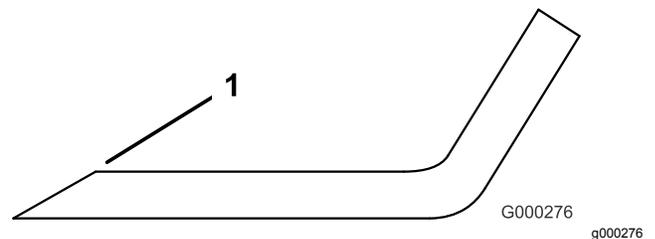

Figure 111
3. Examine the cutting edges of all of the blades and sharpen the cutting edges if they are dull or nicked (Figure 111).
Note: Sharpen only the top of the cutting edge and maintain the original cutting angle to ensure sharpness (Figure 111). The blade will remain balanced if the same amount of metal is removed from both cutting edges.